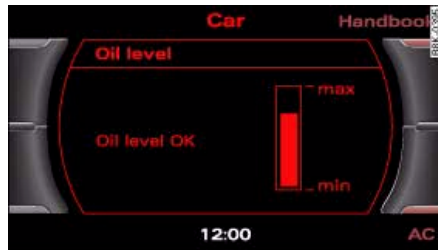

Fig. 255 Display: Oil level
- Read off the oil level on the display ⇒ fig. 255. Top up the engine oil if the bar in the oil level display is near the “min” mark ⇒ *page 259*.